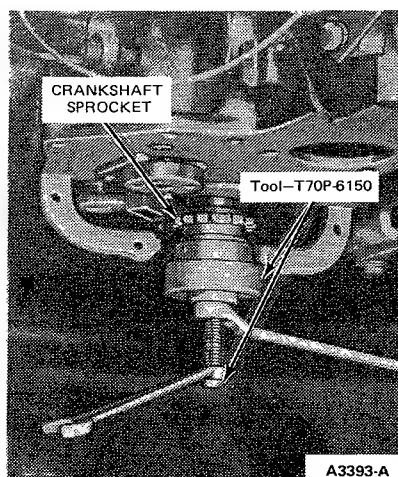

FIG. 32 Installing Crankshaft Sprocket
1. If crankshaft sprocket was removed, install using replacer tool No. T70P-6150 (Figure 32).